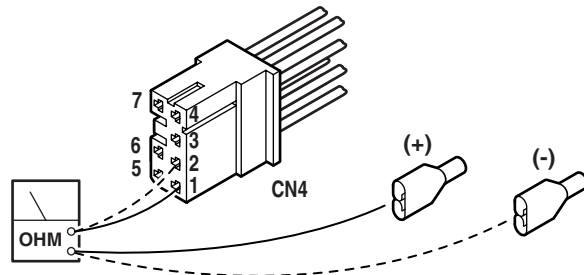

Figure 7-21.
2. Using an ohmmeter, test for continuity between pin 1 of CN4 and battery (+) connector. Also test between pin 2 of CN4 and battery (-) connector. See figure 7-21.